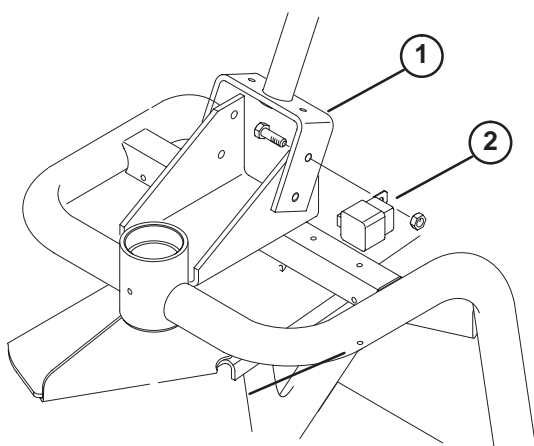

Figure 1
- On Sand Pro 2020/3020 only – Remove nut from capscrew securing steering bracket to frame. Insert relay and black wire from harness onto capscrew and install nut (Fig. 1).